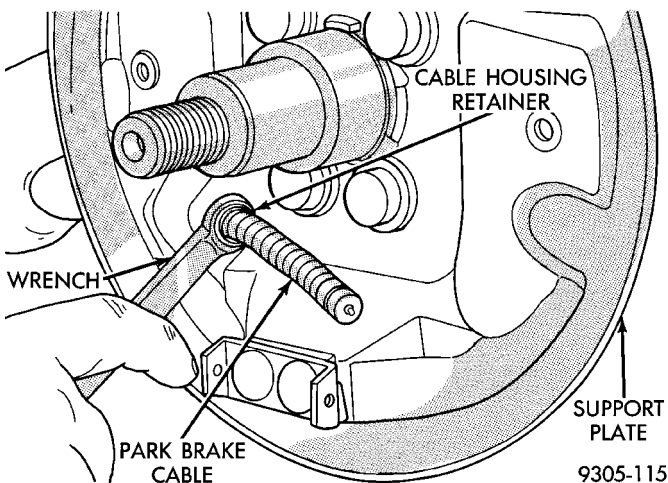

Fig. 93 Removing Park Brake Cable From Support Plate
(7) Remove park brake actuator lever from the park brake cable.
(8) Position a 1/2 wrench over the retainer fingers on the end of the parking brake cable (Fig. 93). Compress cable housing retaining fingers and start cable housing out of support plate (Fig. 93). Remove wrench when retainer is free from the park brake cable mounting hole in the rear brake support plate. Alternate method is to use an aircraft type hose clamp over cable housing end fitting compressing the three fingers.